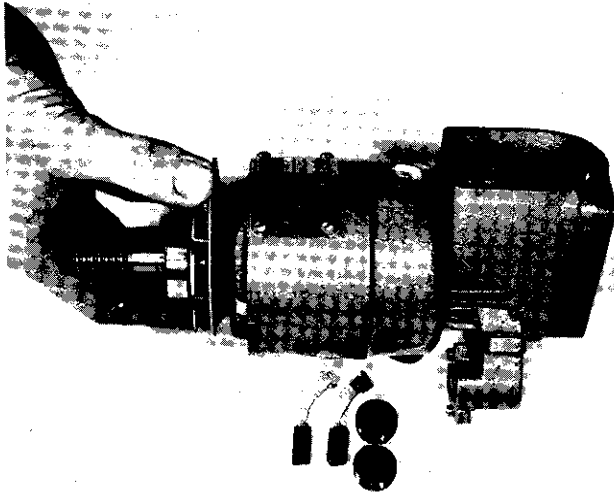

FIG. 15 – Removing Armature
- (e) Remove the armature by tapping with a mallet or wooden stick on the extension shaft at the governor end of the armature. (Figure 15)